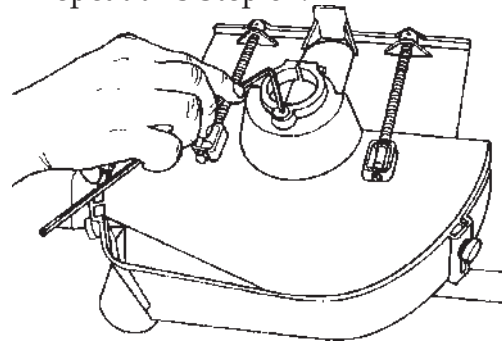

Figure B-112
c. Use a 5/32" Allen wrench to adjust the stop screw (211) located below the lower saw guard's collar, see Figure B-112.